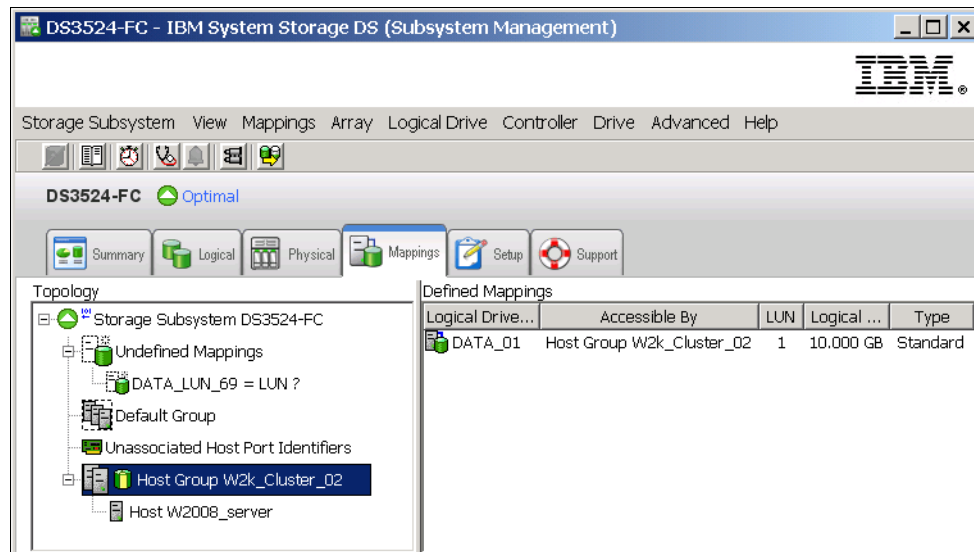

Figure 11-17 Displaying created mappings
5. Your host group, host, and your new mapping are visible immediately in the Topology tree of the Mappings tab, and the host group and the host are now removed from the Default Group. The Storage Partitioning icon shows mapping is there as seen in Figure 11-17. In the Defined Mappings pane you can see the logical drive with assigned LUN number.